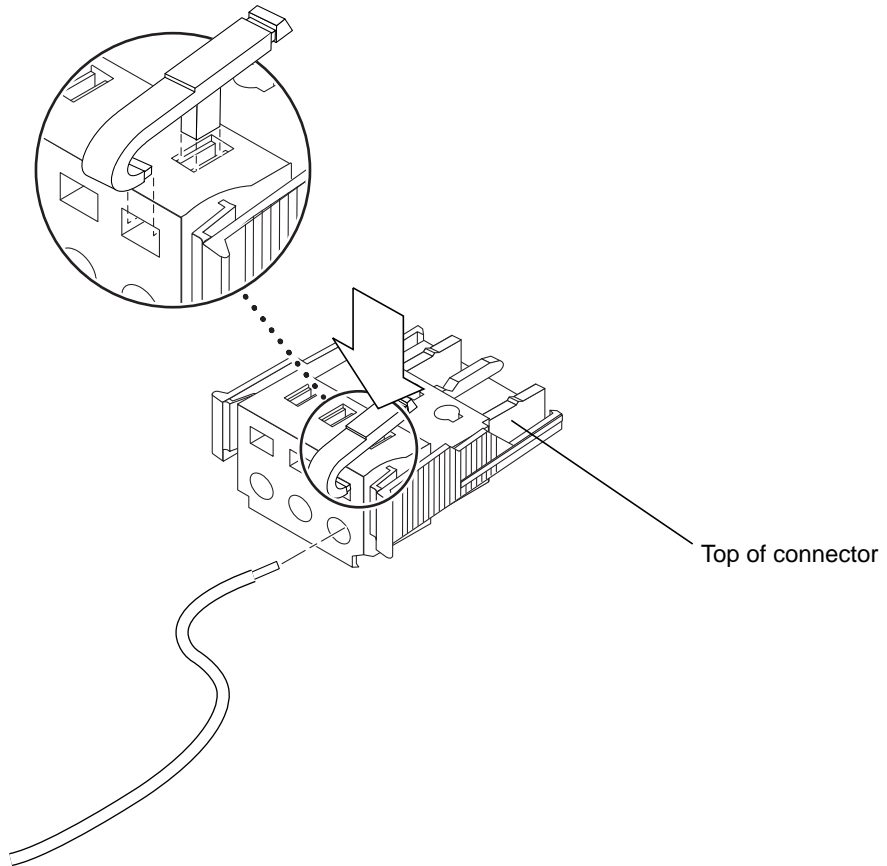
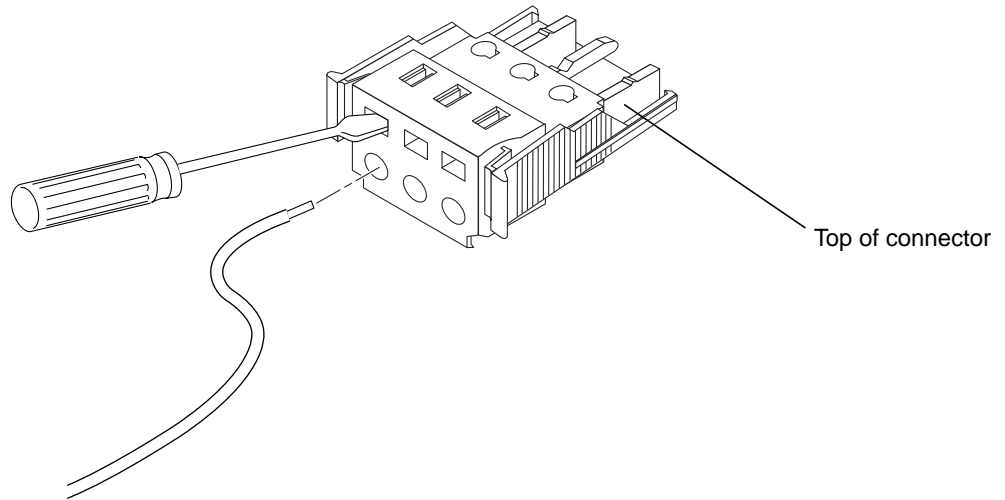

FIGURE 3-2 Opening the DC Connector Cage Clamp (Lever Method)
FIGURE 3-3 Opening the DC Connector Cage Clamp (Screwdriver Method)
6. Insert the tip of the cage clamp operating lever into the rectangular hole directly above the hole in the DC connector where you want to insert the first wire and press down on the cage clamp operating lever (see FIGURE 3-2).
You can also open the DC connector cage clamp by inserting a small slotted screwdriver into the rectangular hole directly above the hole in the DC connector where you want to insert the first wire, and pressing down on the screwdriver (see FIGURE 3-3).
If you need to remove a wire from the DC connector, insert the cage clamp operating lever or a small screwdriver into the slot directly above the wire and press down (FIGURE 3-2 and FIGURE 3-3).